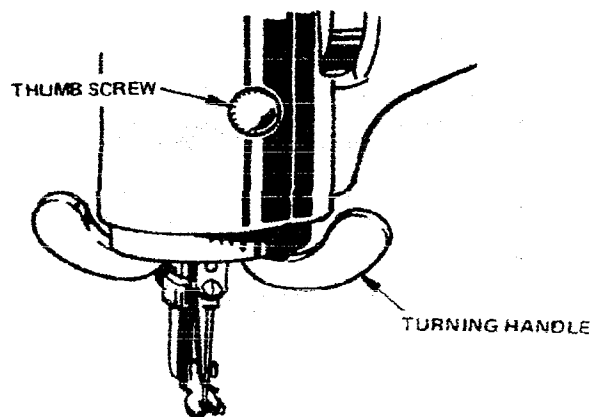
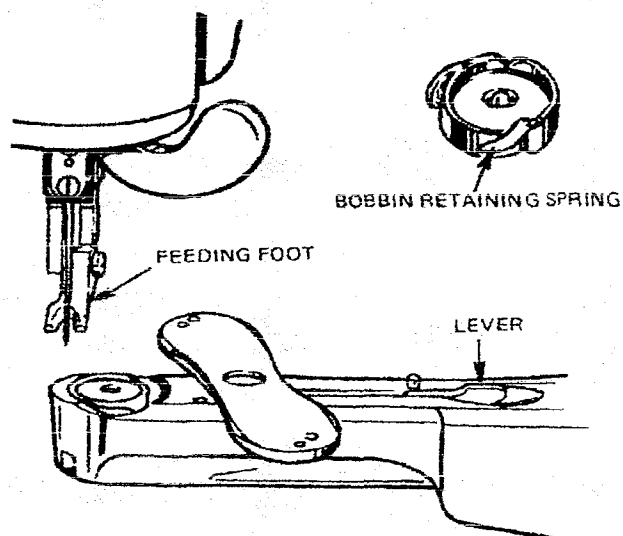

Fig. 5
Fig. 7
Material is moved along by the feeding foot only, and the direction of stitching can be changed as desired by turning handle, Fig. 5. To make a curved stitching, *operate machine slowly and without turning work*, turn the turning handle enough to produce the desired curve.
Feeding foot rises between each stitch while needle is in the material. With needle serving as pivot, material can be turned in any direction. When desired, the feeding foot may be fixed to feed in a straight line in any direction, by tightening the thumb screw shown in Fig. 5.
Raise needle bar to its highest point and lift feeding foot shown in Fig. 7 by moving lifter shown in Fig. 5 upward.
Press down lever shown in Fig. 7 and swing needle plate around as shown.
**NOTE:** For 29U172A machine, move bobbin retaining spring shown in Fig. 7 outward before taking out the bobbin.